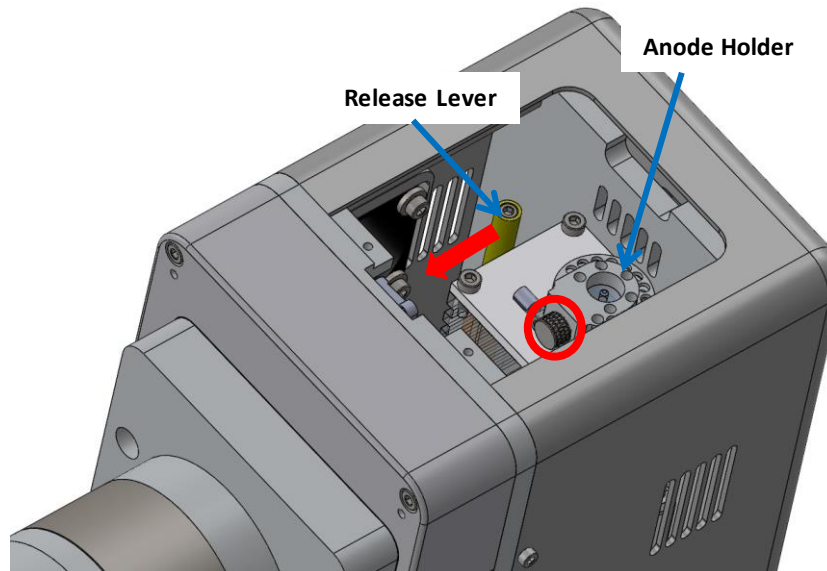

Figure 10-4. Anode holder.
5. Pull the lamp release lever in the direction of the arrow in Figure 10-4, no more than $\frac{1}{2}$ ", and carefully remove the old lamp.